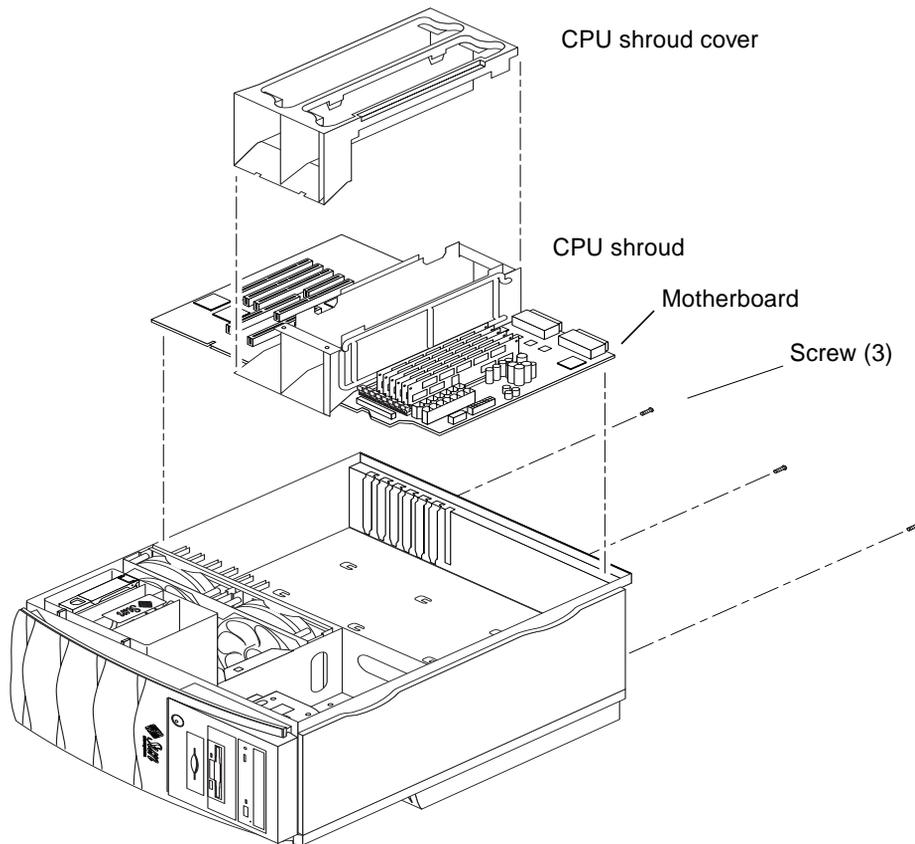

FIGURE 8-6 Removing and Replacing the Motherboard
2. **Lay the system on its side (FIGURE 8-6).**
6. **Using a No. 2 Phillips screwdriver, remove the three screws securing the motherboard to the chassis back panel (FIGURE 8-6).**
7. **Position the motherboard in the chassis (FIGURE 8-6).**
9. **Using a No. 2 Phillips screwdriver, replace the three screws that secure the motherboard to the chassis back panel (FIGURE 8-6).**